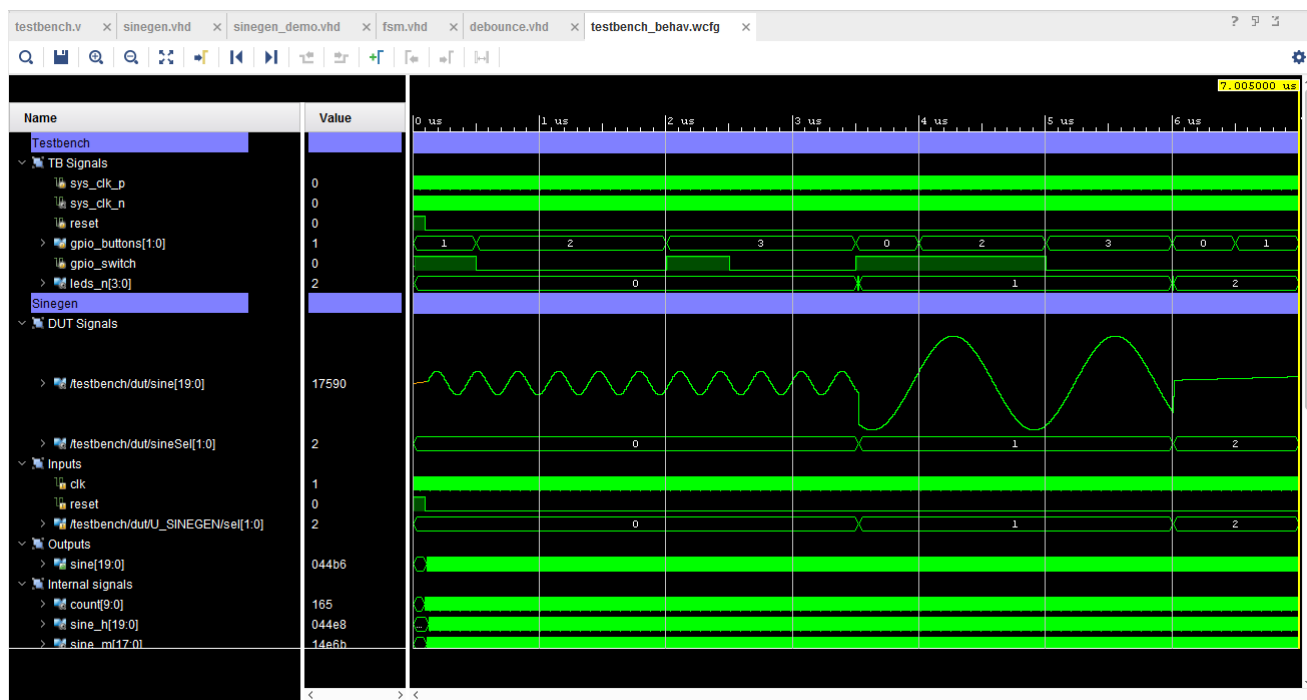

Figure 31: Corrected Low Frequency Output
3. Click the **Run All** button  (Figure 31) to run the simulation.